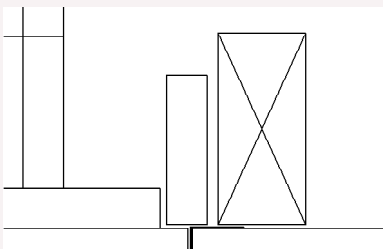

fig. 6
**Optional;** If the stair is to be installed as the house is being built and before the ceiling lining is fitted you may choose to fit the stair frame flush with the bottom of the ceiling battens. A "J" channel is then fitted to the stair frame and ceiling lining fitted into the "J" frame to achieve a square stop finish (figure 6).